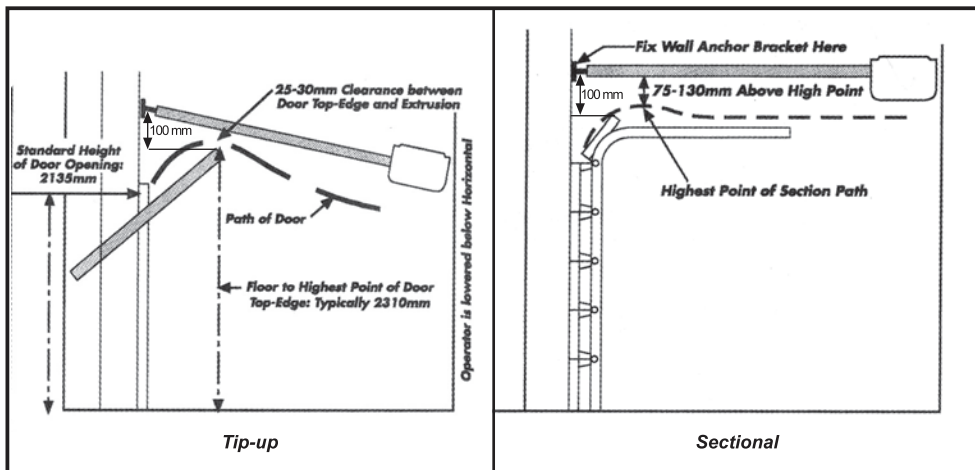
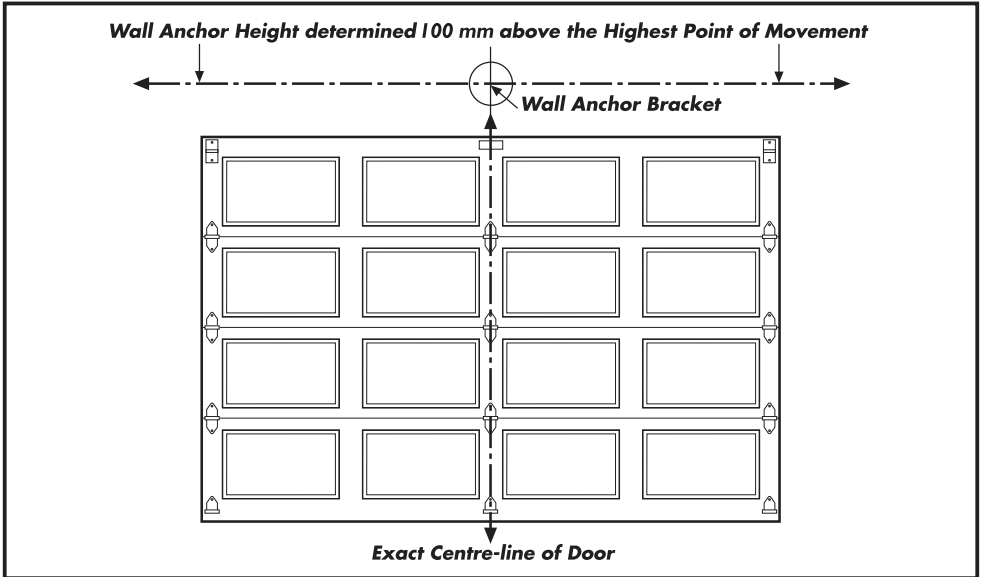

Figure 5
Figure 6
8.2 DETERMINING THE HEIGHT OF THE WALL ANCHOR BRACKET (Refer Fig.5)
(Refer to Fig. 5 on page 9 and Fig. 6 above)
1. Determine the exact center of the garage door. Extend this line upwards until it crosses the horizontal line marked in Figure 6.
1. Temporarily support the Carrier Box from the ceiling by any suitable means. (Refer Fig. 5)